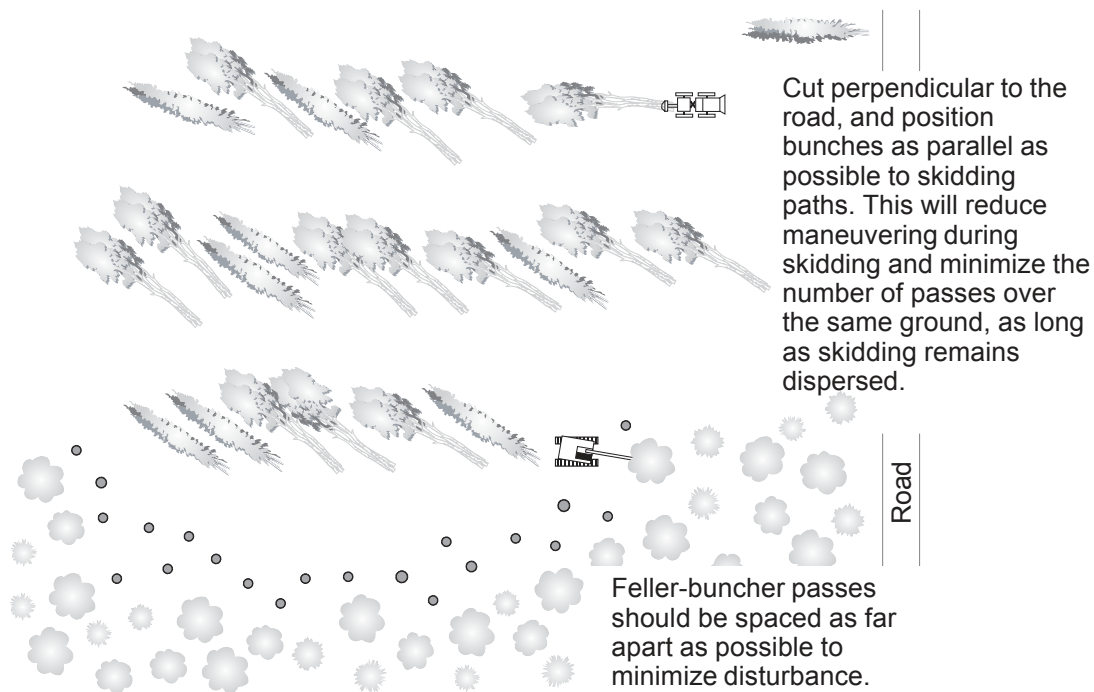

Figure 27. Tips for harvester operators to minimize soil disturbance and damage.
- Space feller-buncher passes as far apart as possible to reduce the area of soil disturbance. Make neat bunches that are as parallel as possible to the skidding path. This will minimize the amount of maneuvering the skidder needs to do during hook-up (Figure 27).